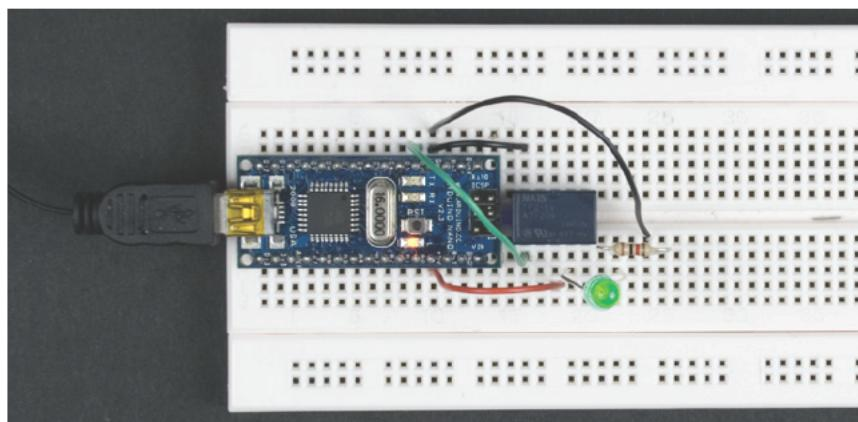
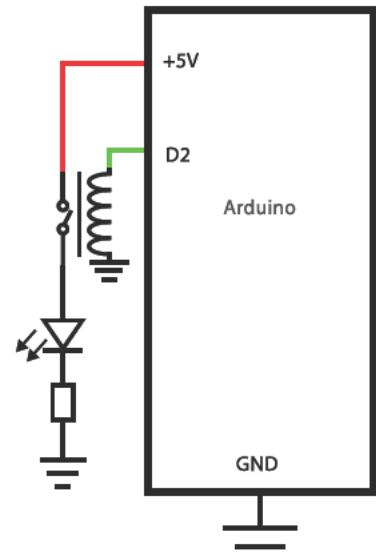

Figure 7-5. Connecting the LED with a relay
Figure 7-6. Circuit diagram with Arduino, relay, LED, and resistor
Figure 7-5 shows the Arduino Nano seated in a breadboard along with a relay and an LED. Figure 7-6 shows the circuit diagram.
b. Connect the other end of the resistor to the Arduino GND pin. If necessary, use black jumper wire, as shown in Figure 7-5.